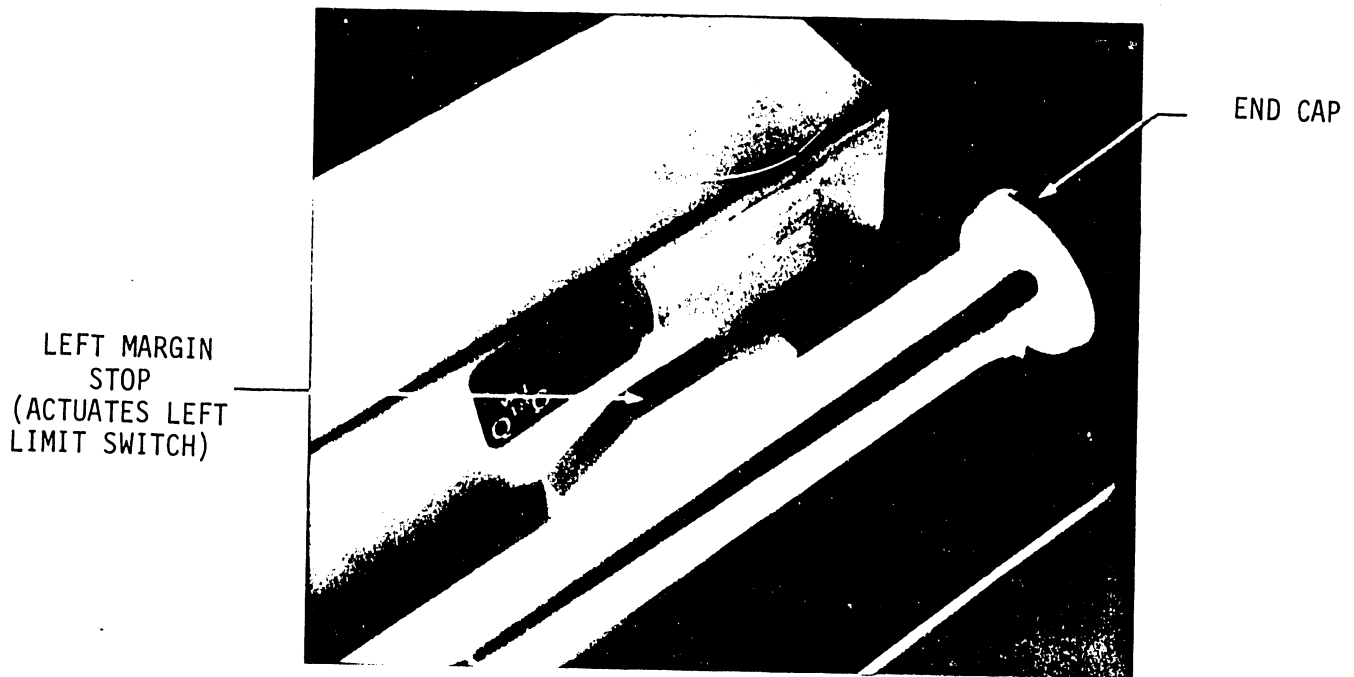

FIGURE 20
- (d) Move Y arm towards left margin until left margin stop (See Figure 20) actuates left X encoder switch (X SW1).